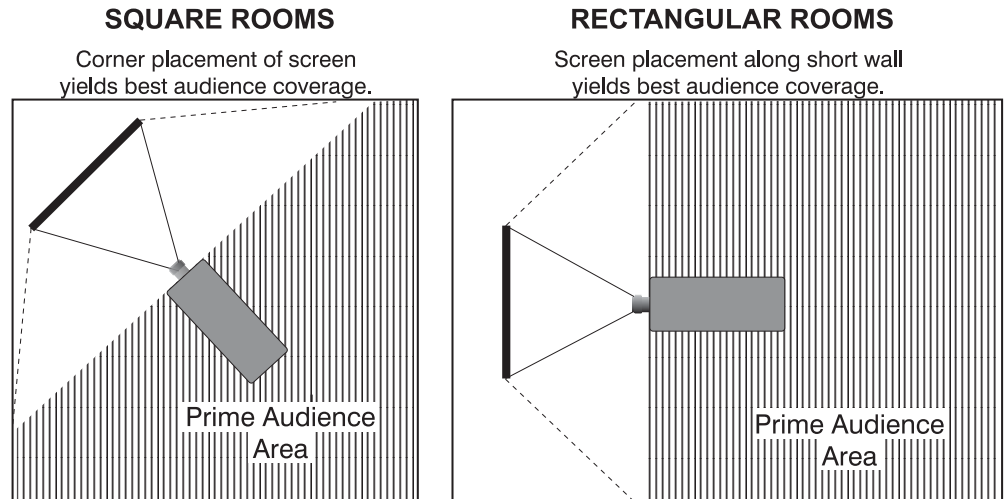

Figure 2.7. Screen Locations for Maximum Audience Coverage
- When laying out the projection room, consider positioning the projector and screen in a manner which will achieve maximum audience coverage and space efficiency. For example, placing the screen along the larger wall in a rectangular room will reduce audience coverage. Figure 2.7 shows two examples of how audience coverage is maximized.